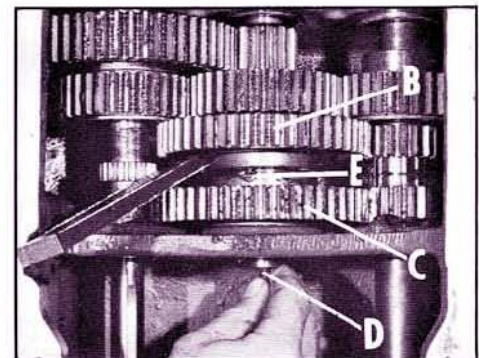

Fig. 15
15. With the two gears (B) and (C) spread apart, as shown in Fig. 15, use a small rod or allen wrench (D) and insert it up through the hole in the bottom of the shaft until the roll pin (E), located between the two gears (B) and (C), comes into view.